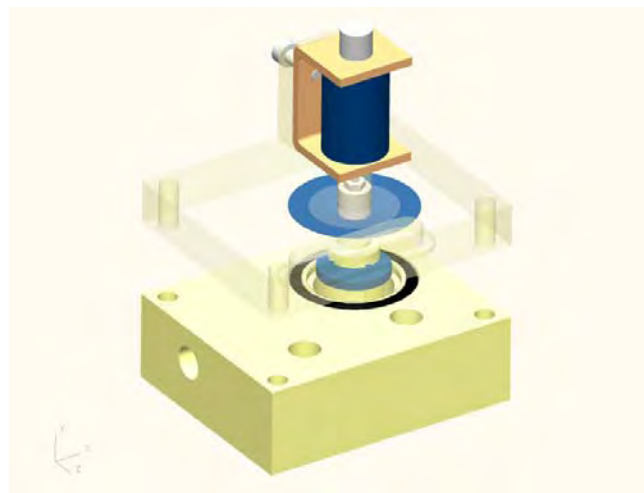

Figure 4-17
4.7.5 Safety Valve (SV)
A Safety Valve (SV) is incorporated in the safety valve block in order to provide the patient with an open breathing path from ambient air in the event of an emergency. The safety valve is comprised of a sealing disc and corresponding sealing surface which functions like a check valve. A solenoid valve is also included in the system, which under normal operating conditions is energized. In this condition the valve's plunger is extended holding the sealing disc hard against its seat and closing off the ambient port. In the event of a critical error condition (e.g. Technical fault) the solenoid is de-energized retracting the plunger away from the sealing disc. Under these conditions the sealing disc will remain loosely in position on its sealing surface and allowing it to function as an inspiratory check valve. Any inspiratory effort on the part of the patient will result in the sealing disc being displaced and inspiratory flow being drawn into the system from atmosphere. As the patient begins to exhale the sealing disc is forced against its sealing surface thus closing off the ambient port. Patient exhalation under safety valve open conditions is achieved through the open expiratory system (Figure 4-17).